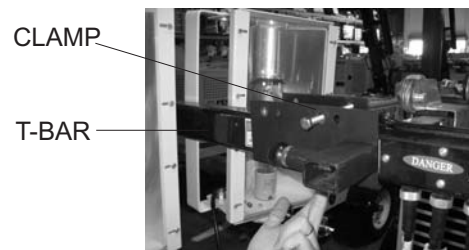

Figure 3. Attachment of Clamp
2. Attach the clamp to the light tower T-bar as close to the center as possible as shown on Figure 3.